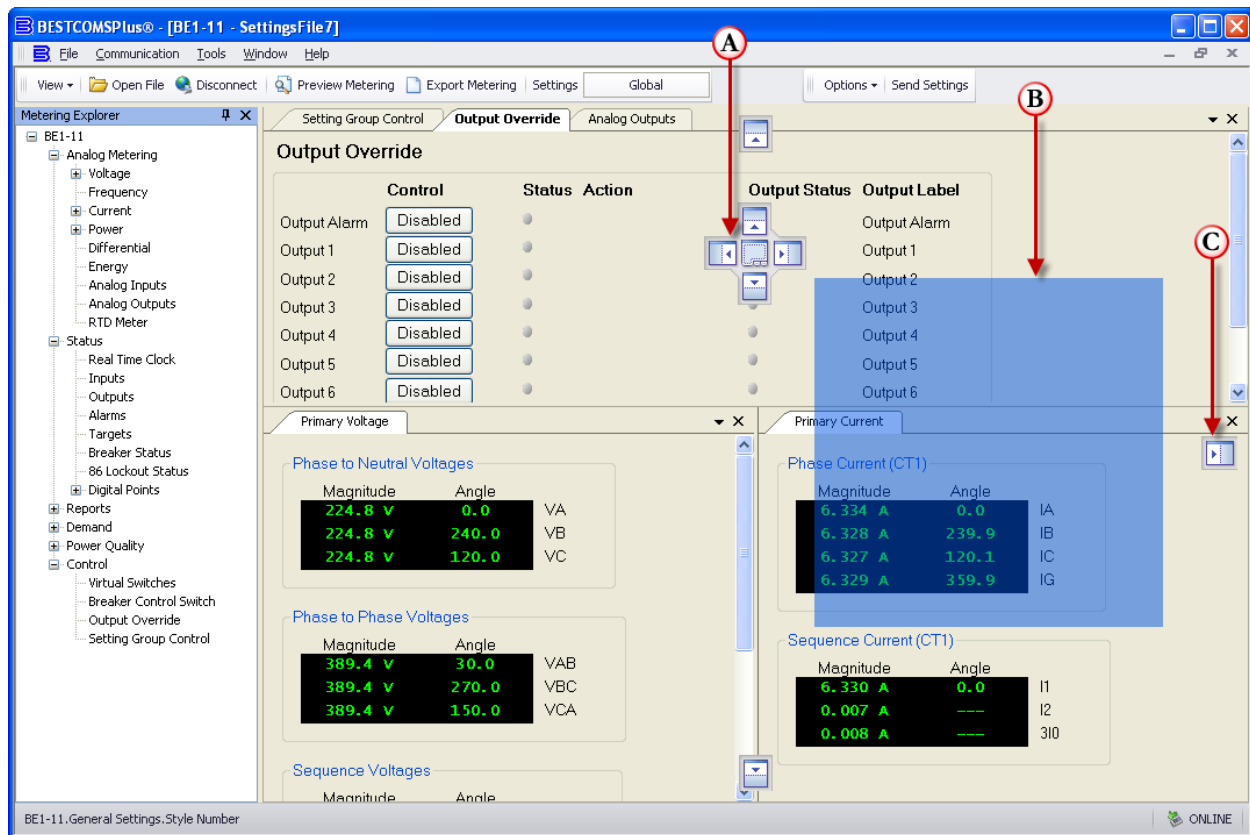

Figure 29-1. Metering, Docking Options
See Figure 29-1. Table 29-1 explains the call-outs in Figure 29-1.
**Table 29-1. Explanation of Figure 29-1 Call-Outs**